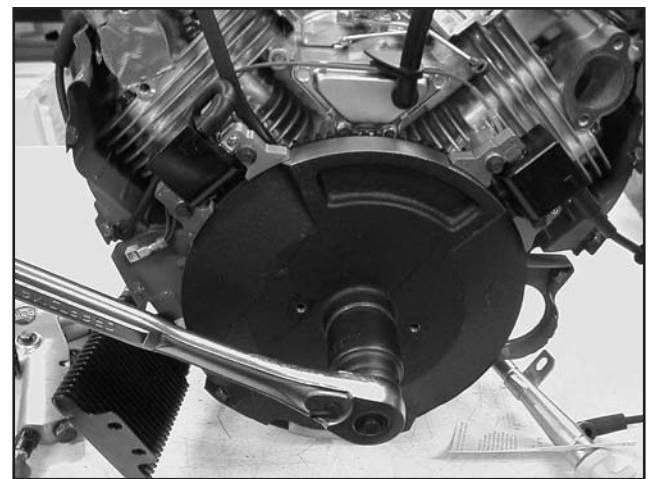

Figure 2-8. Removing Flywheel Nut
3. Remove flywheel nut and washer, Figure 2-8.